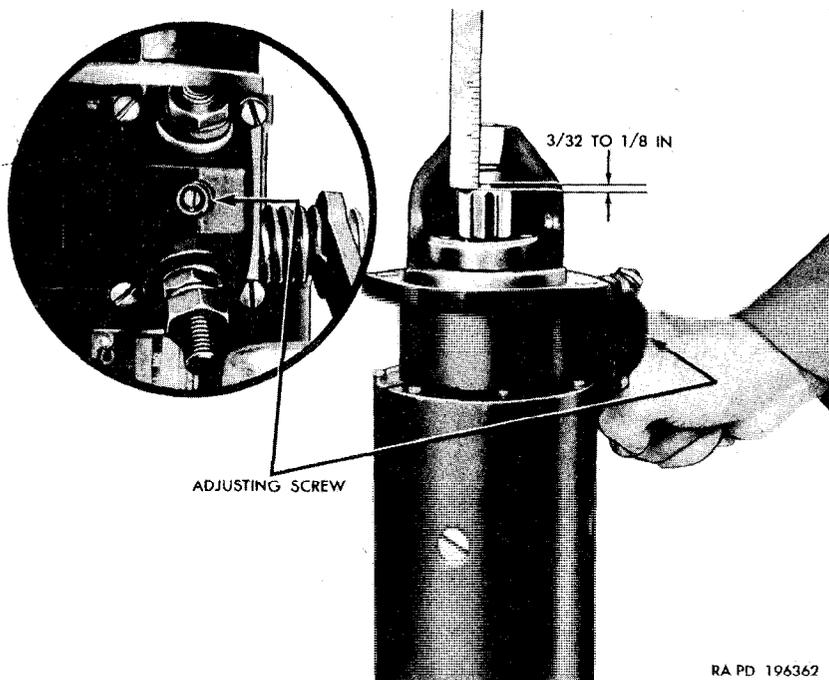

Figure 129. Pinion adjustment for early-type starter.
c. Adjust Starter Pinion (Early Type). Place the starter (fig. 129) in a vertical position, resting on the commutator end. Hold the starter and push the shifting yoke lever down (toward the com-